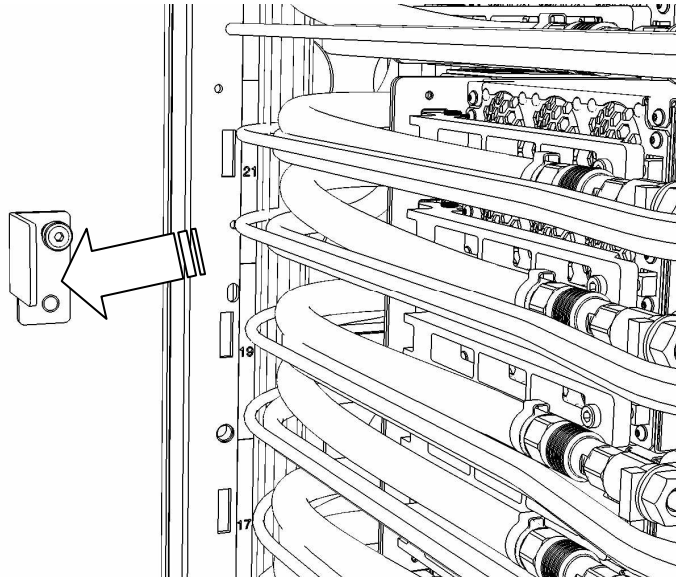

Figure 8 Remove Cover Latch Bracket
- b) Remove the cover latch bracket on the left vertical rack member using the 4mm hex driver 41V1059 (see Figure 8).